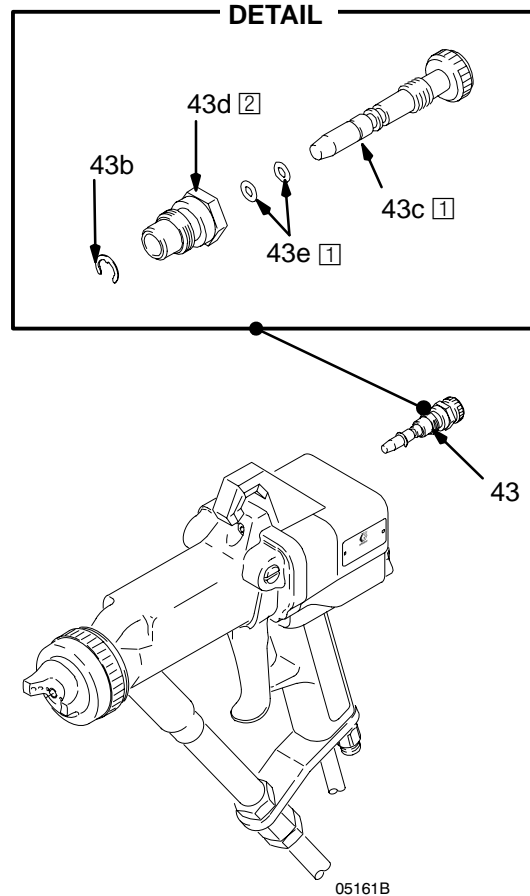

Fig. 21
2. Place a wrench on the flats of the valve housing and remove it from the handle. See Fig. 21.